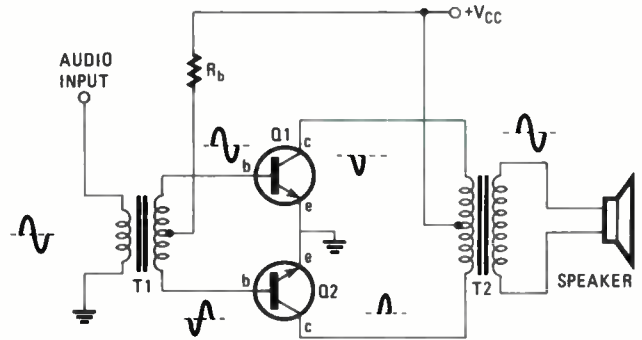

Fig. 22—A class B push-pull audio power amplifier uses each "channel" for one-half the waveform cycle.
There are some amplifiers that deliberately resort to distortion for their operation. Class B and class C amplifiers are examples. A class B amplifier conducts for only one half-cycle, or 180° of an AC sine wave input. It is cut off the other half-cycle. Therefore, in order for amplification to occur without distortion, two amplifiers must be combined, one for each half-cycle of the signal. Such an amplifier is referred to as a *push-pull* amplifier. A typical circuit is shown in Fig. 22. Q1 conducts on positive half-cycles while Q2 conducts on negative half-cycles of the input.
55. (one half-) In Fig. 22, transformer T1 couples the input to the bases of Q1 and Q2. R_b provides a small value of bias so that
The amplifier in Fig. 22 is called a _____ amplifier.